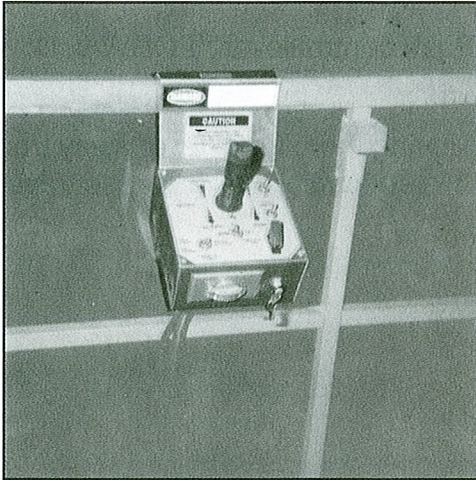

Figure 5.
1. Hang control console on guardrail (Figure 5).